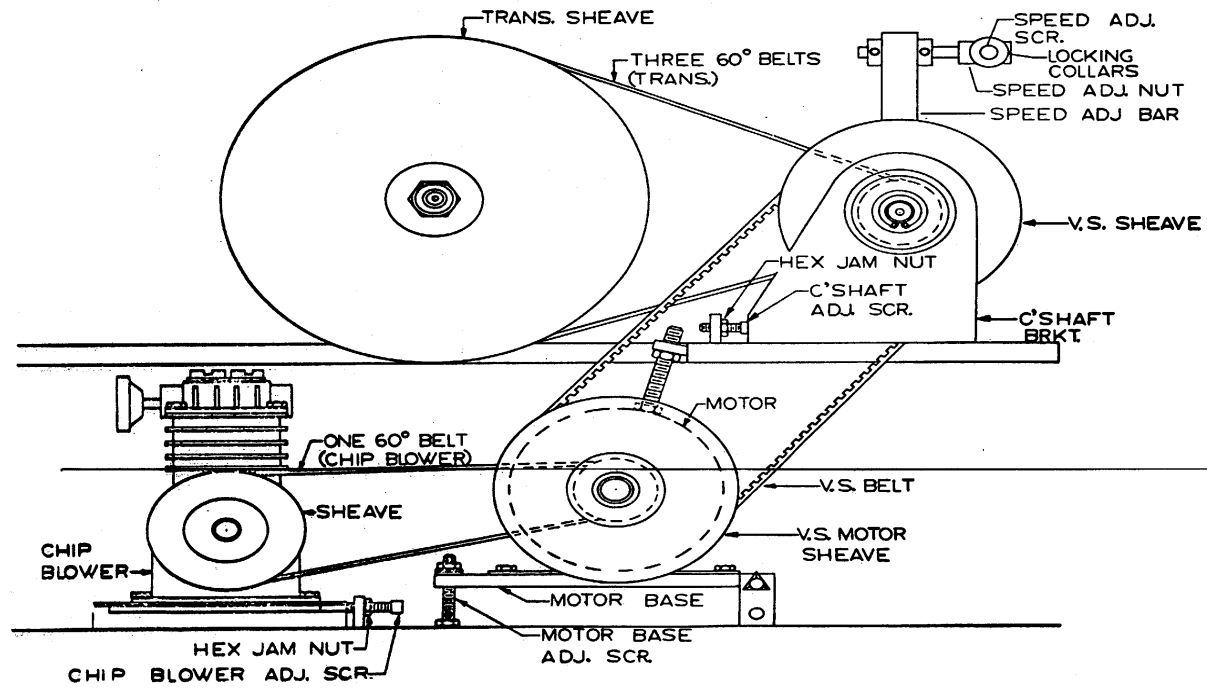

Figure 4. Drive Belt Adjustments
**BELT ADJUSTMENT:** Shift the transmission into its neutral position. Remove the rear cover. The belts from the transmission to the countershaft can be tightened by means of a jackscrew in a lug welded to the upper shelf. With the four mounting screws snug but not tight, jack the countershaft bracket until the three belts between the transmission and countershaft are properly adjusted. The type of belt used must be guitar string tight to operate properly (fig. 4).